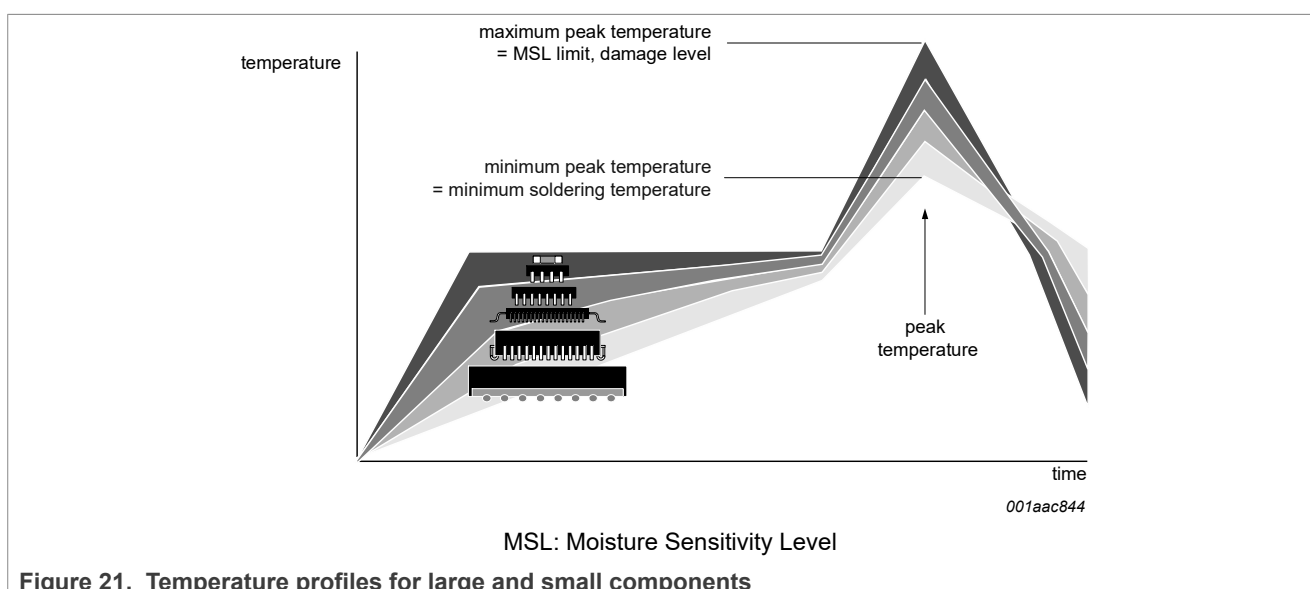

Figure 21. Temperature profiles for large and small components
- Lead-free versus SnPb soldering; note that a lead-free reflow process usually leads to higher minimum peak temperatures (see Figure 21) than a SnPb process, thus reducing the process window
Studies have shown that small packages reach higher temperatures during reflow soldering, see Figure 21.